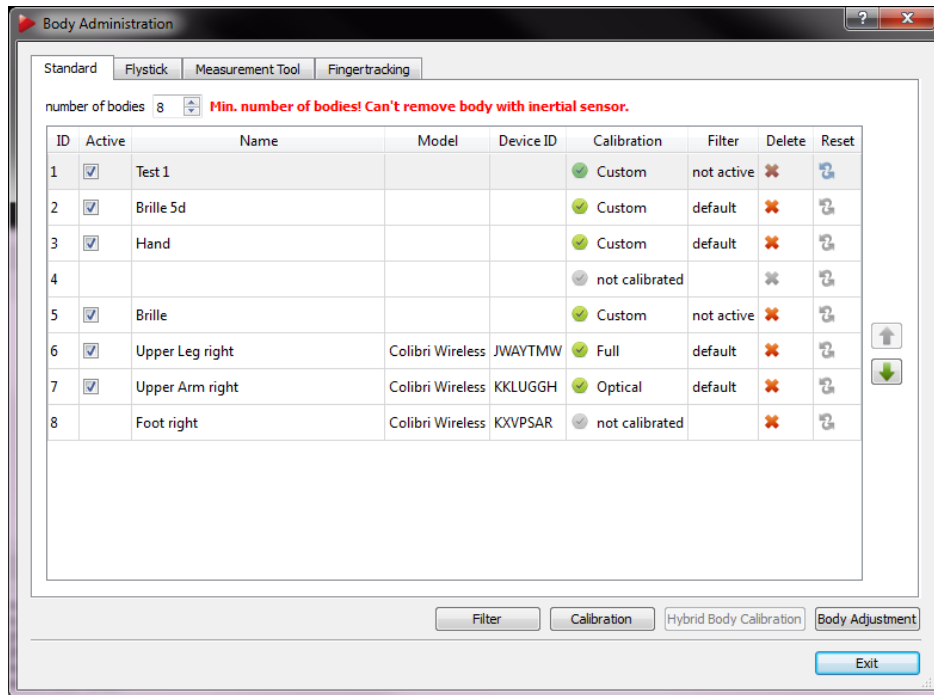

Figure 4.31: Flexible Body Administration (from *DTrack2* v2.9.0)
2. While measurement is running you may define the areas to be suppressed manually. In the Monitor 2DOF display, right-click on the respective camera window and enable '*Edit reflex suppression areas*'. Alternatively, you may use the shortcut ('E') to enable this mode (shown in figure 4.31(a) on page 63).
Within the edit mode you may (also refer to figure 4.31(b) on page 63)
Body Administration The menu allows for administering all targets (e.g. Standard, Flystick, etc.) in the system (refer to figure 4.31).